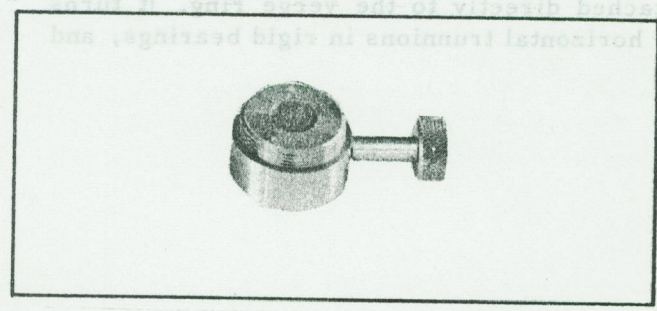

Figure 1-3 Adapter Tripod
When a 6B/87 tripod is being utilized to hold the datum compass the handle (9) is replaced with an adapter 6B/468, see Figure 1-3